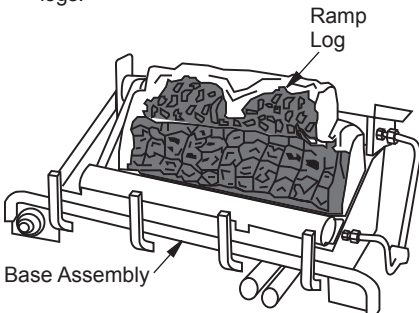

Figure 23 - Installing Log Set
1. Place fiber ramp-log in center of chassis as shown in Figure 23. The fiber ramp-log can be identified by its shape and much lighter weight when compared to the other logs.